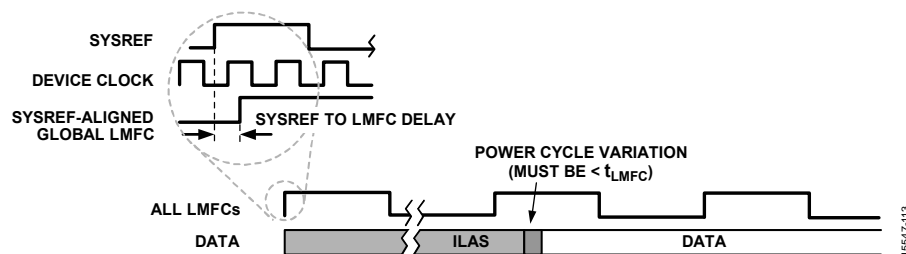

Figure 118. SYSREF and LMFC
The JESD204B protocol organizes data samples into octets, frames, and multiframe as described in the Transport Layer section. The LMFC is synchronous with the beginnings of these multiframe. In Subclass 1 operation, the SYSREF is used to synchronize the LMFCs for each device in a link or across multiple links (within the AD9208, SYSREF also synchronizes the internal sample dividers), as shown in Figure 118. The JESD204B receiver uses the multiframe boundaries and buffering to achieve consistent latency across lanes (or even multiple devices), and also to achieve a fixed latency between power cycles and link reset conditions.
- The total latency variation across all lanes, links, and devices must be  $\leq 1$  LMFC periods (see Figure 118). This includes both variable delays and the variation in fixed delays from lane to lane, link to link, and device to device in the system.